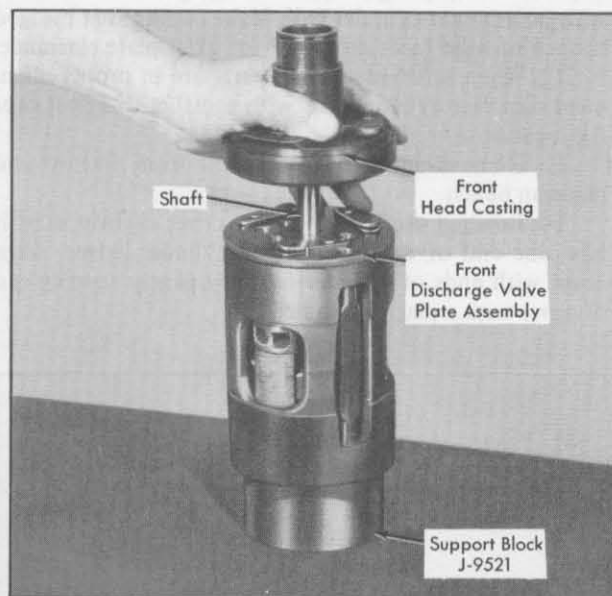

Fig. 1-95 Installing Front Head Casting
7. Determine exact position of front head casting in relation to dowel pins on internal mechanism. Mark position of dowel pins on sides of front head assembly and on sides of internal mechanism with a grease pencil. Carefully lower front head casting into position, Fig. 1-95, making certain that sealing area around center bore of head assembly does not contact shaft as head assembly is lowered. Do not rotate head assembly to line up with dowel pins, as sealing areas would contact reed retainers.